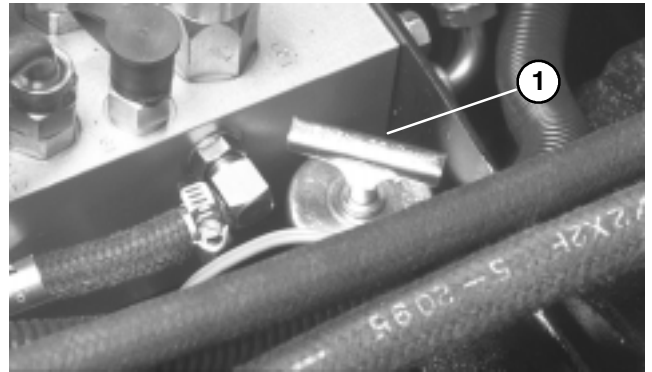

Figure 29
2. Clean area around dipstick cap (Fig. 29) and remove cap from axle filler tube.